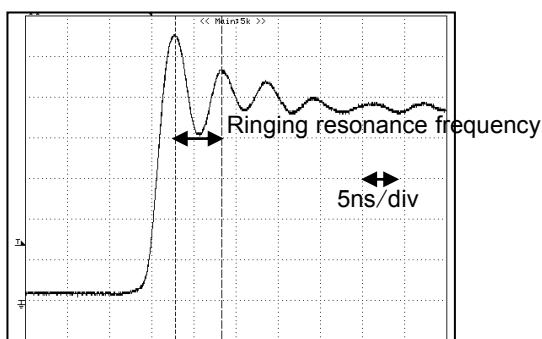

Figure 76. PWM Output waveform
- ① Measure the ringing resonance frequency “ f_1 ” of PWM output waveform (when rising) by using low capacitance Probe (e.g. FET probe) at the OUT terminal. (Figure 76)